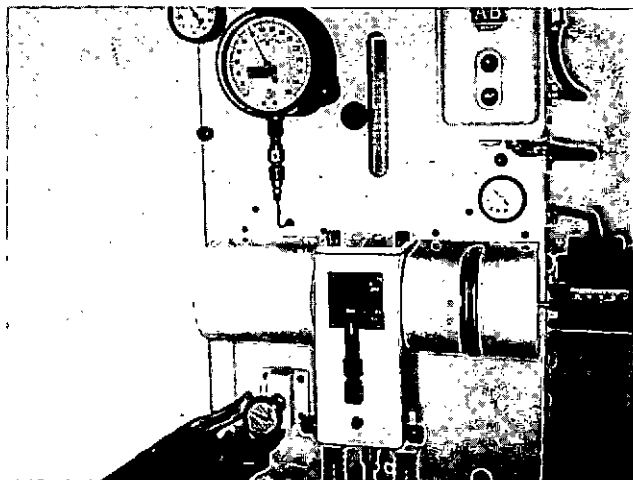

Fig. 4-51, (F60137). Adjust the test oil pressure to 120 psi
14. Adjust the test oil pressure by turning the regulator knob until the pressure gauge shows 120 psi [827 kPa]. If this pressure cannot be achieved, the trouble is probably due to a sticking regulator, or to a worn gear pump, Fig. 4-51. A pressure of 120 psi [827 kPa] must be maintained at all times during the calibration and testing.